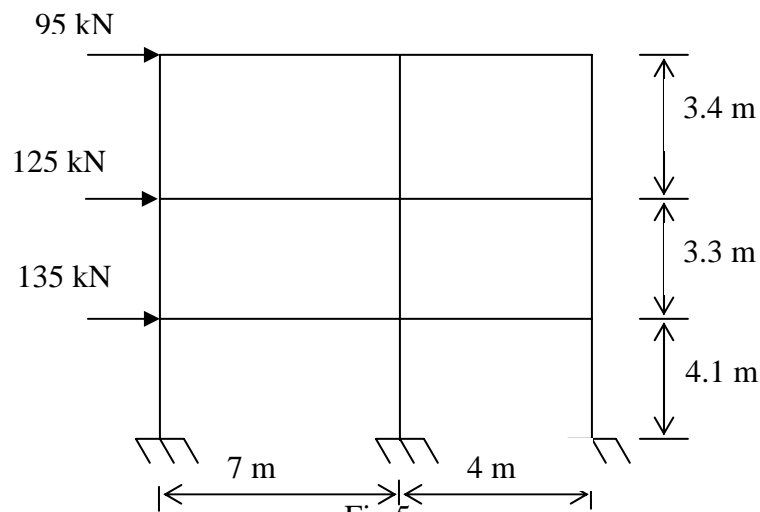

Fig.5
7. Analyse the frame shown in Fig.5 by Stiffness method. Draw the bending moment diagram and sketch elastic curve. Cross-sectional area of all columns is equal. [15]